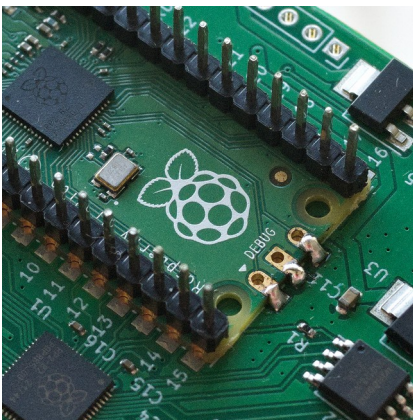

Figure 4: Solder debug pins.
1. Place the Pico and the headers on the two sides onto the PCB and solder the 3 debug pins to secure the target Pico, see figure 4.